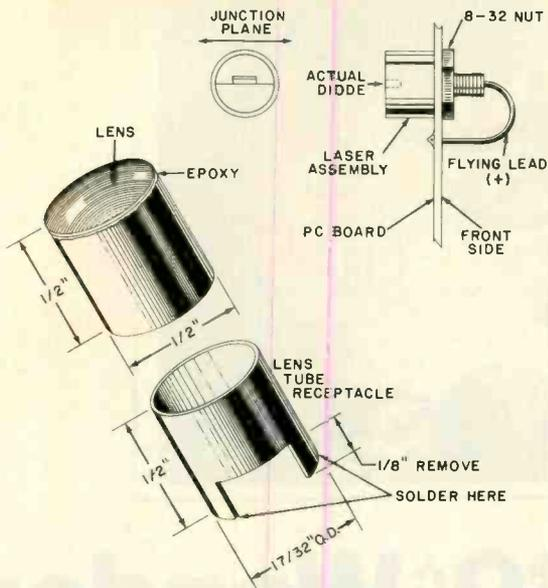

Fig. 7. Mounting details for laser and lens tube.
**Final Transmitter Assembly.** When the system is operating properly, remove the LED from the transmitter and install the laser. Mount the laser with its glass window on the back side of the pc board and secure it in place with a #8-32 nut. The plane of the laser junction should be parallel with the narrow side of the pc board. (See Fig. 7.) Next, carefully bend the
Next use two 7/16" standoffs to mount the laser pc board in the cabinet. A telescoping lens tube made as shown in Fig. 7 is inserted in the tube receptacle. Use a simple lens with a diameter of 12 to 15 mm and a similar focal length. Use epoxy to secure the lens in place.
With the laser in place, test the system again. If it works properly, a 1/2" length of brass tubing (available from hobby shops) is carefully soldered to the back of the pc board with the laser chip at the exact center. Cut a slot from the tube as shown in Fig. 7 to
**AM Wireless Microphone.** The wireless microphone in Fig. 7 is designed to transmit voice signals by radio up to about 100 ft to an AM broadcast receiver. Here, the 703 IC is used as an oscillator and audio amplifier. Only a small transistor radio speaker is needed as a microphone. For use as a phono-oscillator, replace the speaker with a 50,000:1000-ohm transformer, and connect the high-impedance winding to the phono cartridge.